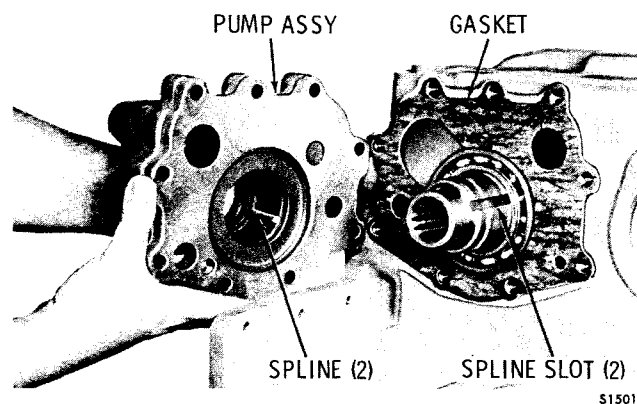

Fig. 7-42. Installing oil pump assembly
(1) Install the oil pump assembly and oil pump gasket onto the pump mounting pad (fig. 7-42).
(2) Retain the pump with seven 3/8-16 x 2-inch bolts 3 (A, foldout 15), two 3/8-16 x 3 bolts 5 and nine lockwashers 2 and 6. Tighten the bolts to 26 to 32 pound feet torque.